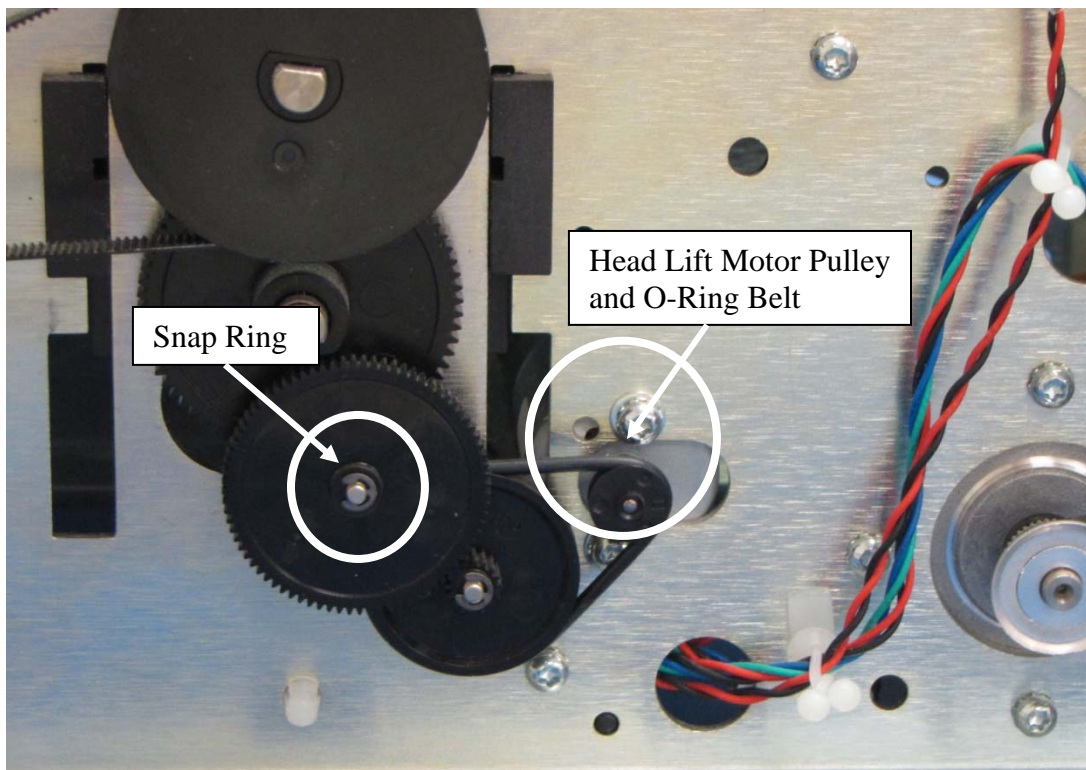

Figure 2
- 4) Remove the snap ring shown in Figure 2 using a flat blade screwdriver. Remove the gear by pulling it straight out, and then remove the O ring belt.